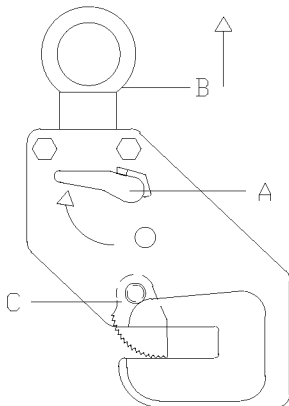

Figure 6
For the “SBC” and “HBC” models, raise the handle (A, Fig. 6) until it is positioned against the stop (D) and pull the shackle (B) away from the clamp. This will bring the gripping cams (C) down in the locked position against the material to be lifted.